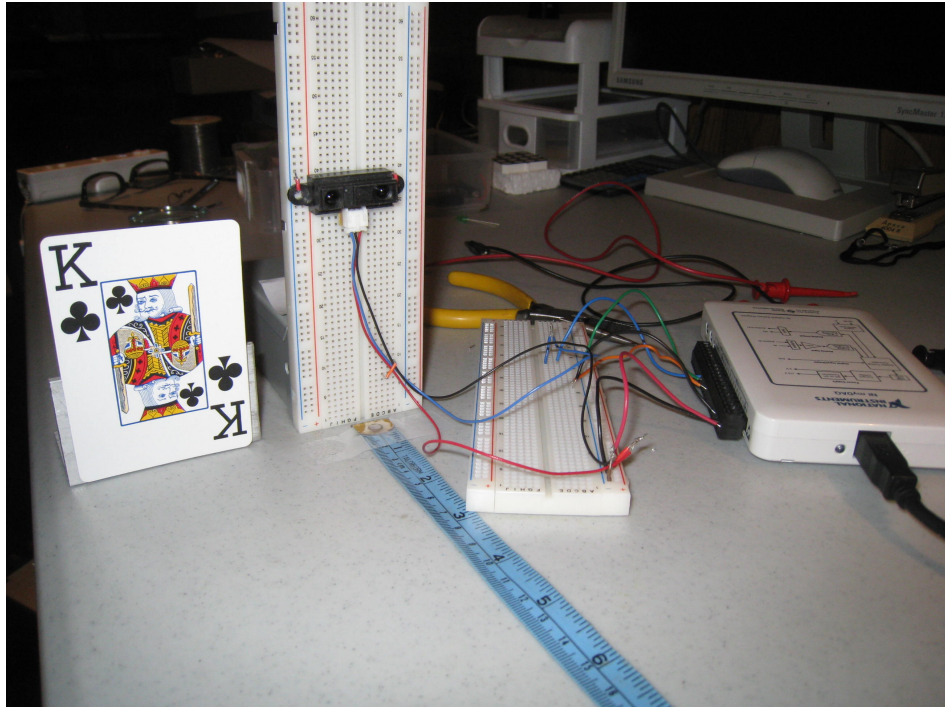

Fig. 1 Components for Optical Measurement of Distances
This lab uses a Sharp GP2Y0A21YKOF Distance Measuring Unit (Fig. 1) to measure a hand location in the range of 10 to 50 cm from the sensor face. NI myDAQ digital voltmeter DMM(V) is used in the sensor study. The DAQ Assistant is configured as a voltmeter and embedded in a LabVIEW program for the 'Touchless Electronic Lock'.